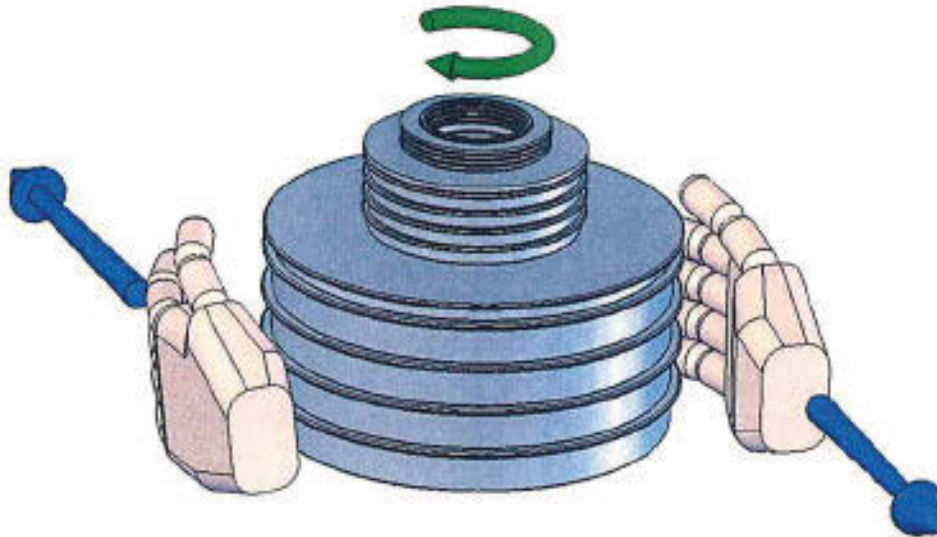

Figure 4-2. Weight Rotation
3. Gently rotate the weight stack clockwise, such that it is turning between approximately 10 and 60 rpm. Avoid side-loads when turning the weights by placing the palms of the hands on either side and “rolling” the stack by pulling in opposite directions, see Figure 4-2.